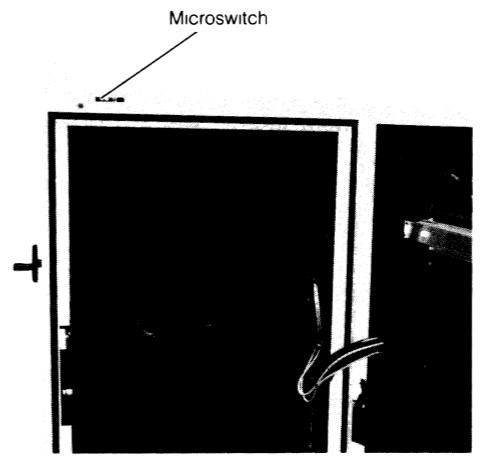

Fig. 18 Microswitch in the Photographing Section
- ① Whether the cover of the photographing section is open or closed.
- ② Whether the processor top cover is open or closed.
- ③ Whether the cover of the charger unit is open or closed.
- The machine is energized when all three microswitches shown in Figs. 18, 19 and 20 are turned on, that is all the covers of the photographing section, processor and charger unit are closed.